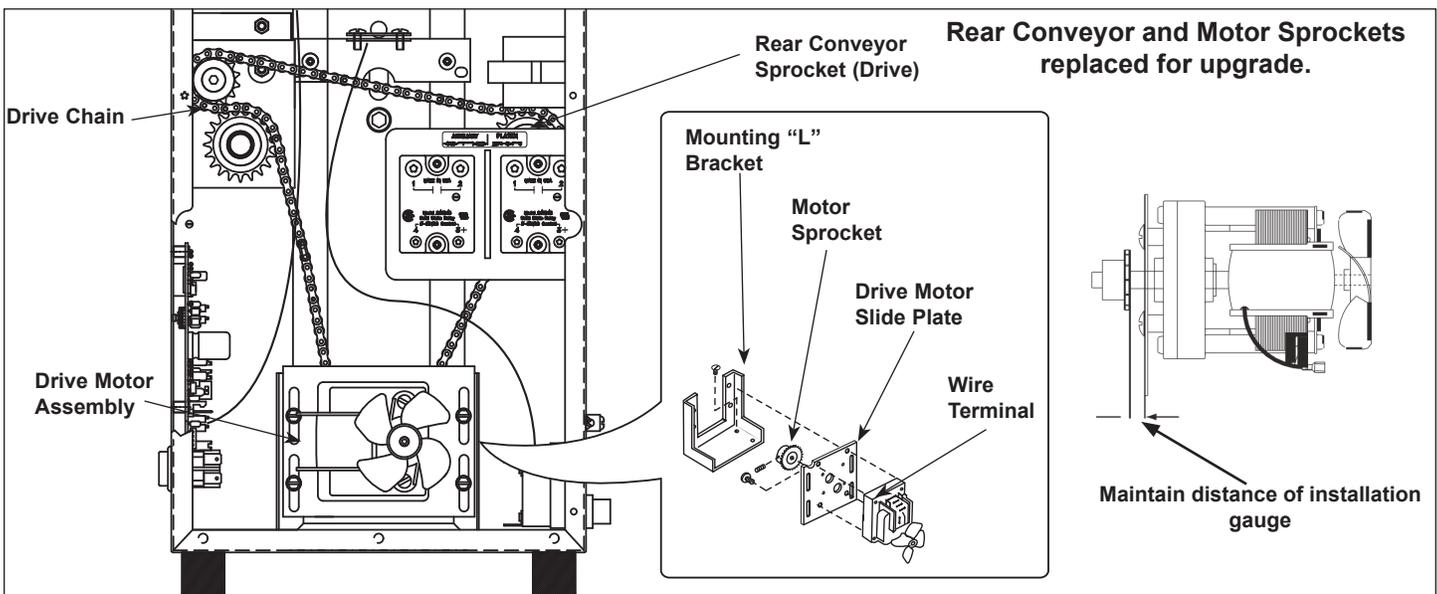

Figure 1. Removing Drive Motor
4. Remove the four 1/4" screws securing the motor Slide Plate and remove the drive motor assembly (Figure 1).
5. Loosen the set screw on the motor sprocket using the 3/32" hex wrench, remove it from the motor shaft and discard the old sprocket and setscrew. (Figure 1).
NOTE: Be sure the Motor Sprocket Setscrew is positioned on the flat of the gear box shaft. (Maintain the gap from the sprocket gauge as shown in Figure 1).